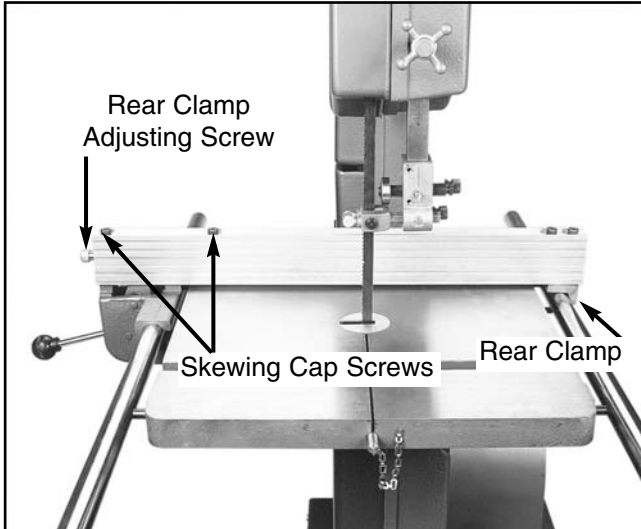

Figure 27. Fence controls.
1. Back out the rear clamp adjusting screw several turns and put the locking lever in the locked position as shown in **Figure 27**.
- Loosen the two skewing cap screws on top of the fence. **Figure 27**.